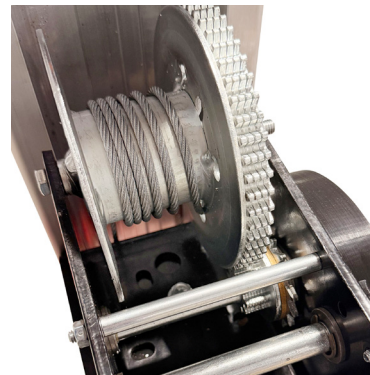

Figure 4-21: Cable Wrapped Tightly and Evenly
56. Turn the winch handle and wrap the cable onto the reel. The cable must be wrapped a minimum of five full wraps around the reel while the fork carriage is at the lowest position. Make sure the cable winds tightly and evenly on the drum. Make sure to wrap the cable to the outside of the reel as shown in Figure 4-21.